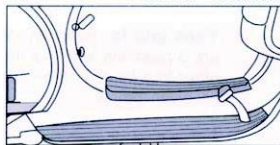

Fig. 26
5.1 **Foot Brake:** Operates on the rear wheel. Press down brake pedal to apply the brake. The distance in which the scooter can be brought to a halt will depend on the speed at which the vehicle is travelling and the user's driving habits. (Fig. 26).